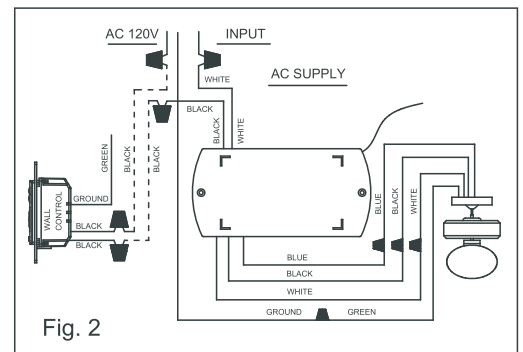

Fig. 2
No utilice el control de velocidad del ventilador en donde el Montaje no es tal como se describe en la Fig 2 de la Instrucciones de instalación.
Step 2. Make the electrical connections as shown in Fig.2. If your outlet box has a ground wire (Green or Bare Copper) connect the Wall Transmitter's ground wire to it. Otherwise connect the Wall Transmitter's wire directly to one of the screws from the outlet box. Secure all wire connections with the plastic wire nuts provided.
Do not use fan speed control in canopies where the Mounting is not as described in Fig2 of the installation instructions.